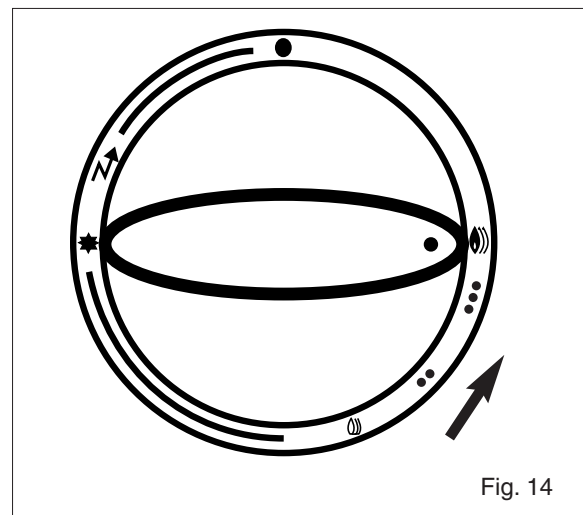

Fig. 14
- When the pilot lights, hold the knob at the "★" mark for a few seconds to set the thermocouple safety device, then turn the knob further in the direction of the arrow until it is between "🔥" and "🔥" (fig. 14).